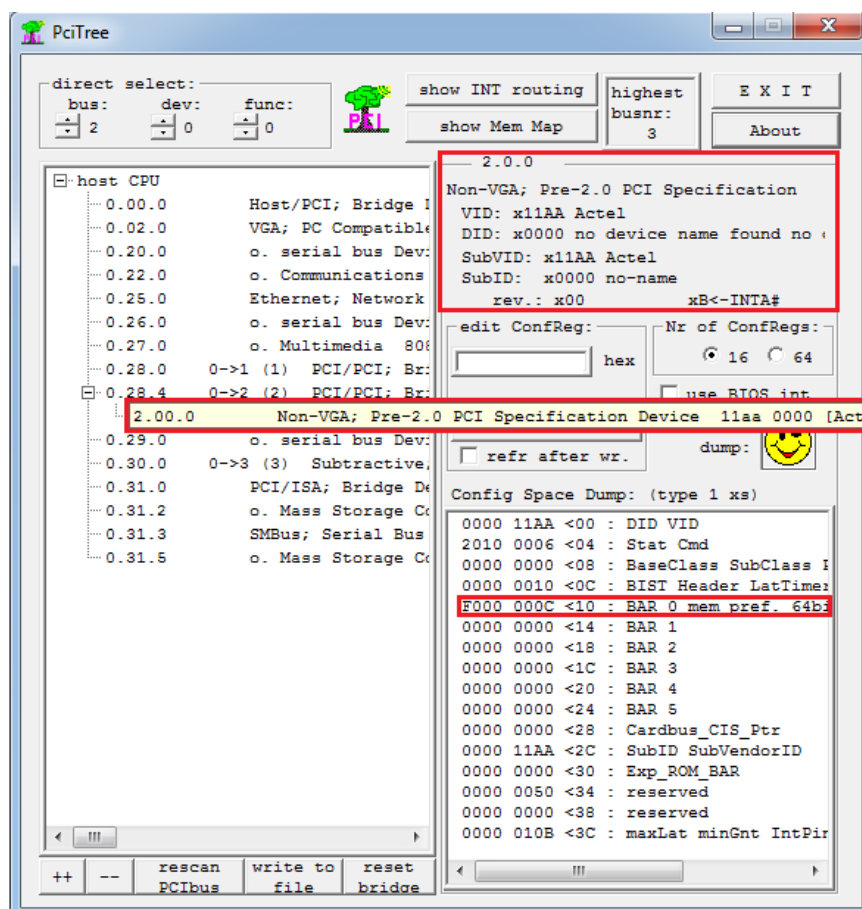

Figure 17. PciTree Tool
16. Double-click **pcitree.exe** to invoke PciTree. A window is displayed, as shown in Figure 17. In the PciTree tool, observe the PCI device with ACTEL ID 0x11AA (Figure 17). If unable to locate the PCI device, check the PCIe connections, restart the host PC, and begin the PCIe test again.